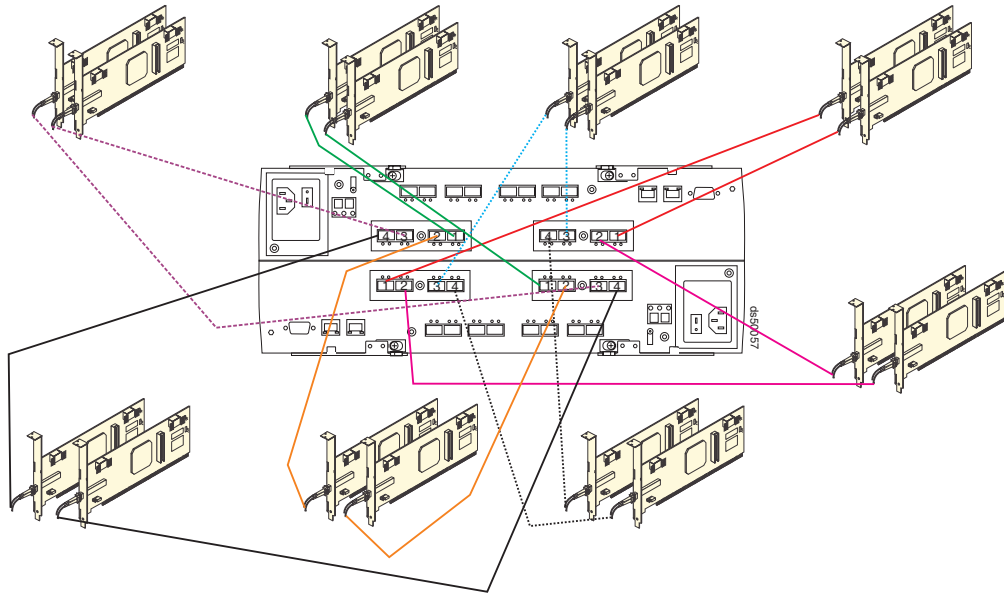

Figure 84. Cabling diagram for eight redundant host connections
3. Repeat steps 1 on page 132 and 2 for each additional redundant host connection. You can create a maximum of eight redundant host connections, as shown in Figure 84 on page 134.
Note: Figure 84 on page 134 shows that the host ports are connected to eight sets of FC host bus adapters (HBAs). You can replace one or all of these sets of FC HBAs with FC switches as required.